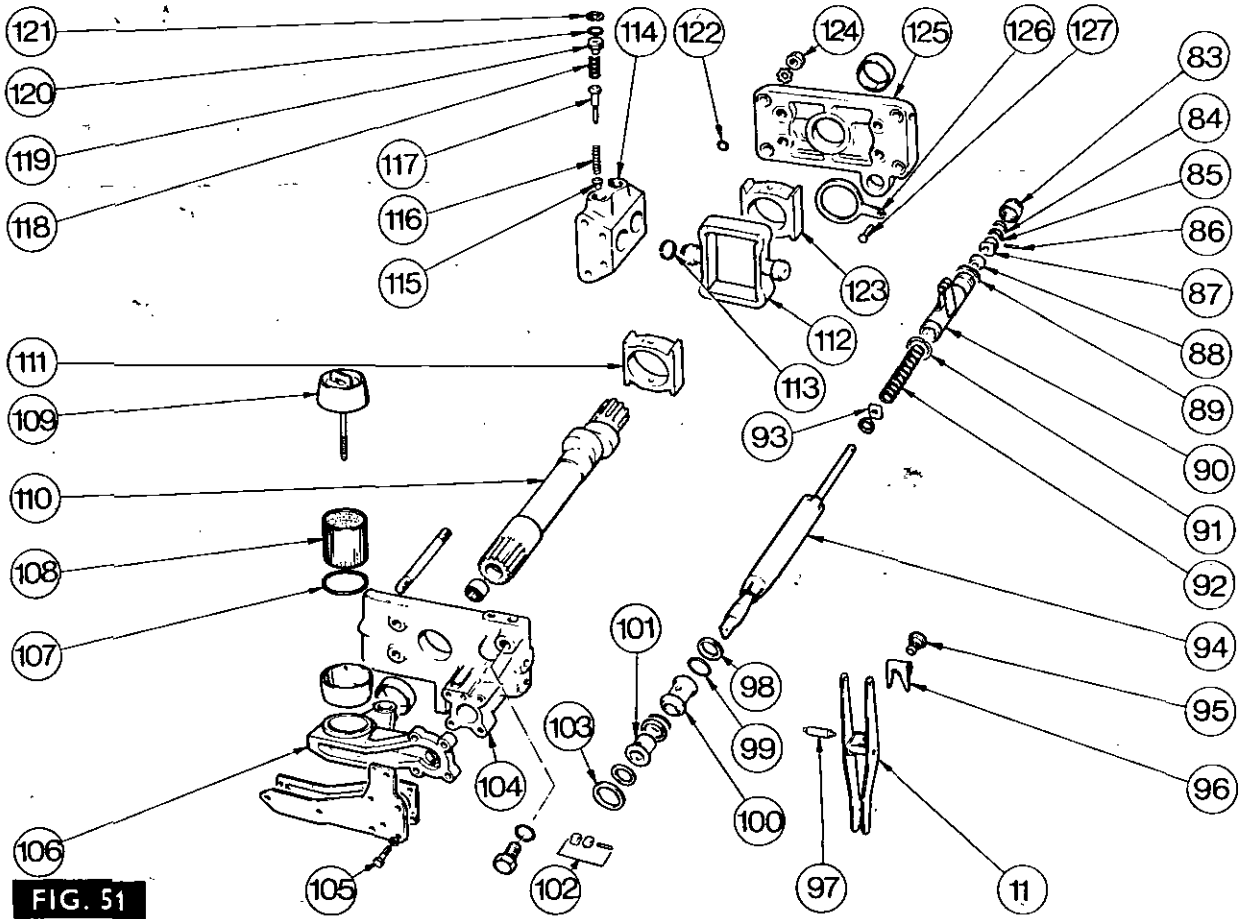

FIG. 51
5. Fig 51. Release the locking wire on the stainer head (109) and remove the head, filter (108) and sealing ring (107).
11. Fig 51. Fit a new sealing ring (107) and filter (108) and refit the strainer head (109), securing it with locking wire.